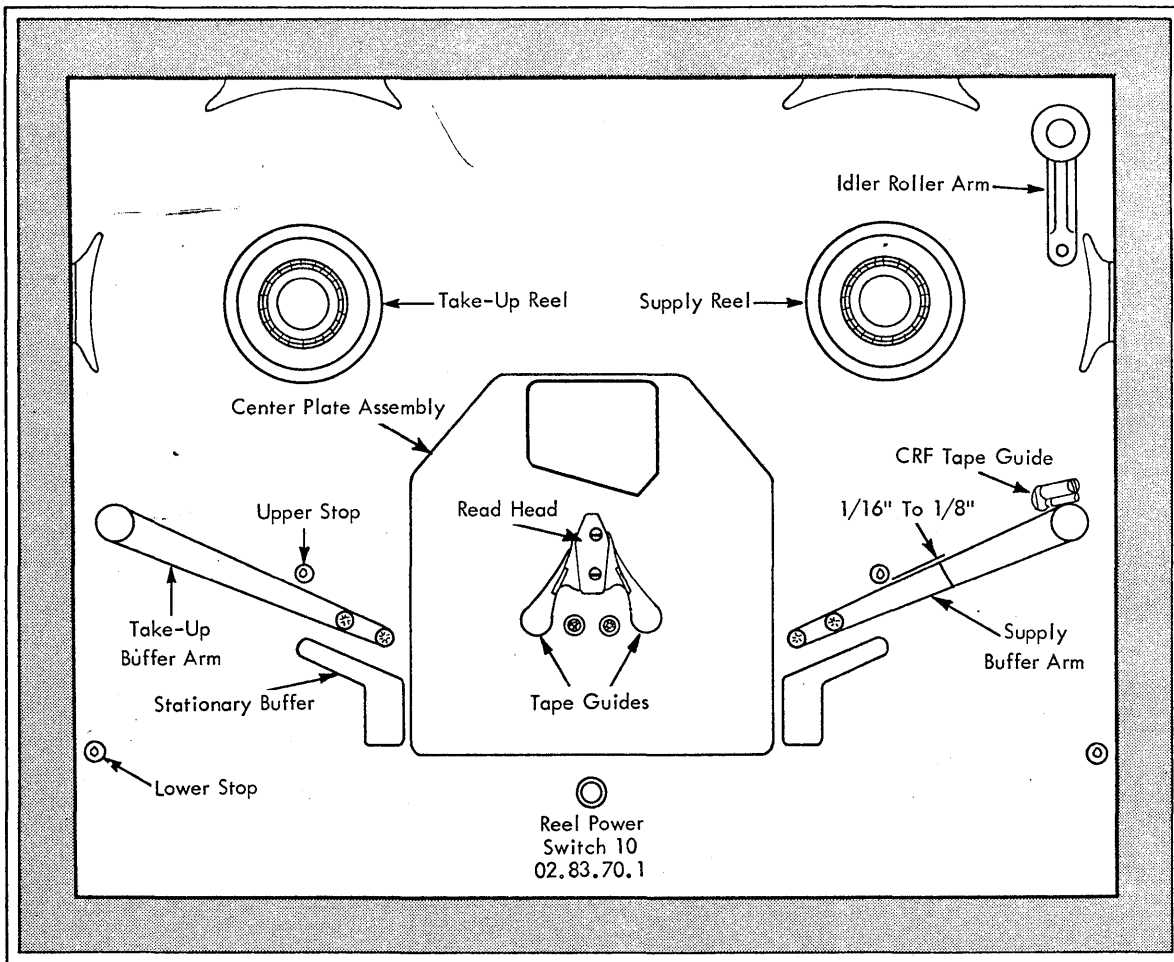
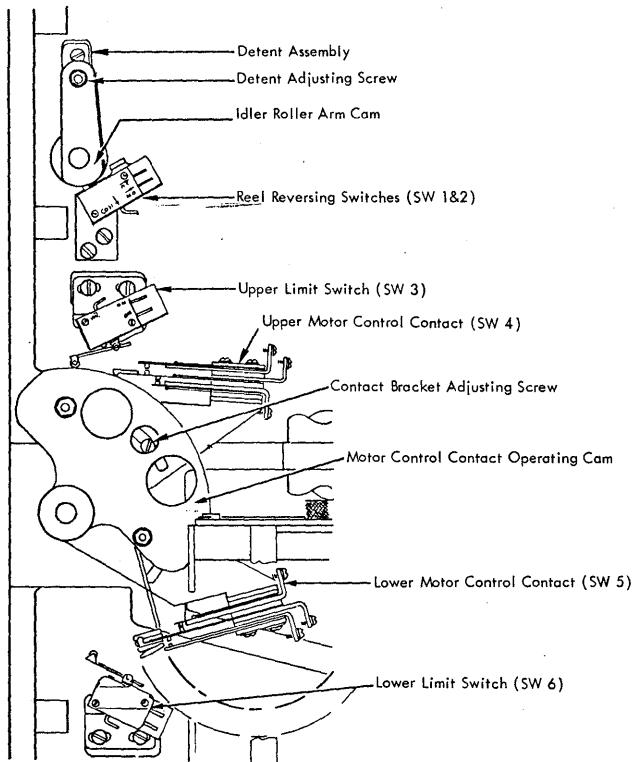
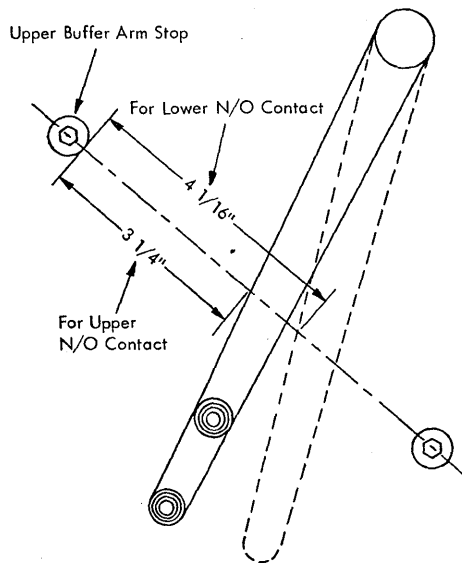
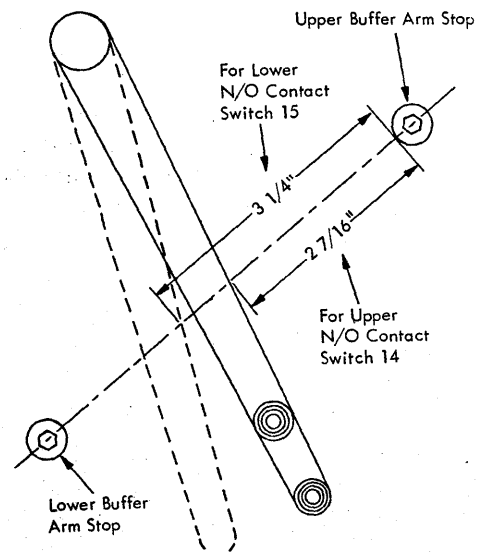

Figure 4-12. 1621 Main Plate - Front View
Figure 4-14. Supply Reel Motor Switches
Figure 4-15. Supply Motor Control Contact Adjustment
Figure 4-16. Takeup Motor Control Contact Adjustment
Adjust the CRF tape guide (Figure 4-12) so that tape will ride on the friction feed roller.
1. Position the motor control contact operating cam (Figure 4-14) on its shaft so that the buffer arm is  $\frac{1}{16}$  to  $\frac{1}{8}$ " from its upper stop (Figure 4-12) when the cam is fully detented.
2. Move the arm downward. The upper limit switch (Figure 4-14) should make when the buffer arm tape rollers (two) are in line with  $\frac{1}{4}$ " below the stationary buffer rollers (three). Move the switch mounting bracket to accomplish this adjustment.
3. Continue to move arm downward. Lower limit switch (Figure 4-14) should break when arm is  $\frac{1}{4}$  to  $\frac{1}{8}$ " from lower stop (Figure 4-12). Move switch mounting bracket to accomplish this adjustment.
1. Move buffer arm upward. Upper N/O motor control contact (Figure 4-14) should make when the arm is approximately  $3\frac{1}{4}$ " from its upper stop, as shown in Figure 4-15. Move the contact bracket to obtain this adjustment.
2. Move the buffer arm downward. The N/O motor control contact (Figure 4-14) should make when the arm is approximately 4" from its upper stop, as shown in Figure 4-15. Move contact bracket to obtain this adjustment.
1. Move buffer arm upward. The upper N/O motor control contact (Figure 4-14) should make when arm is approximately  $2\frac{7}{16}$ " from its upper stop, as shown in Figure 4-16. Move contact bracket to obtain this adjustment.
2. Move the buffer arm downward. The lower N/O motor control (Figure 4-14) should make when the arm is approximately  $3\frac{1}{4}$ " from its upper stop. See Figure 4-16.
2. Move the detent adjusting screw (Figure 4-14) to obtain a  $\frac{1}{32}$ " clearance between the screw and the detent ball cover.